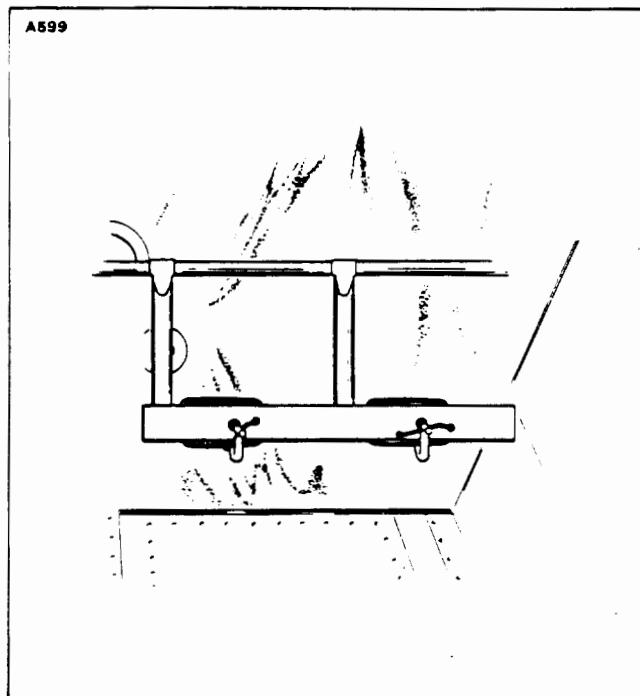

Figure 32-10. Clamping Rudder Pedals in Neutral Position
8. Clamp the rudder pedals to align them in a lateral position. Ascertain that the rudder pedals are in their neutral position. (Refer to Figure 32-10.)